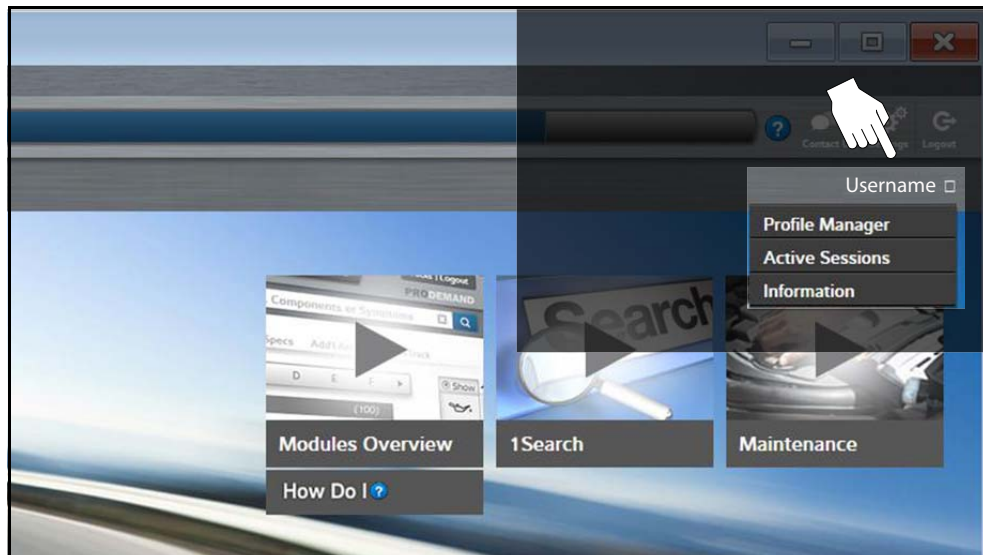

Figure 6-18
2. At the ShopKey Pro start page, select your username (Figure 6-18), then select **Profile Manager** from the dropdown menu.